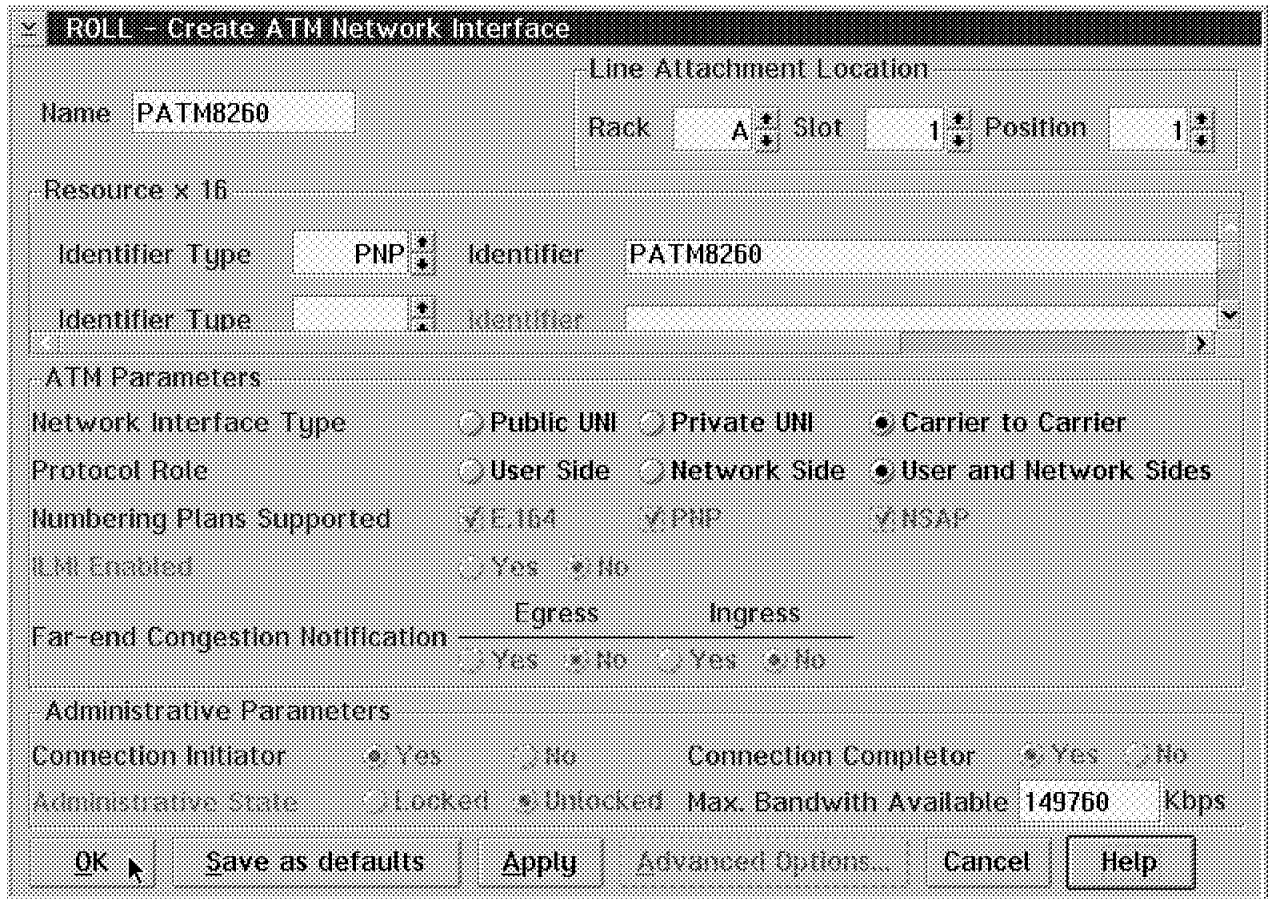

Figure 116. Create ATM Network Interface
The window shown in Figure 116 on page 134 is displayed and requires the following input:
- Far-end Congestion Notification specifies if FECN is used on the forward path (egress) and return (ingress) path. (Not available yet, which is why this is gray in Figure 116 on page 134.)
- Max. Bandwidth Available specifies the maximum amount of bandwidth available for this port. The value defaults to the line speed. Note that the amount in Figure 116 on page 134 shows the bandwidth available for actual payload.